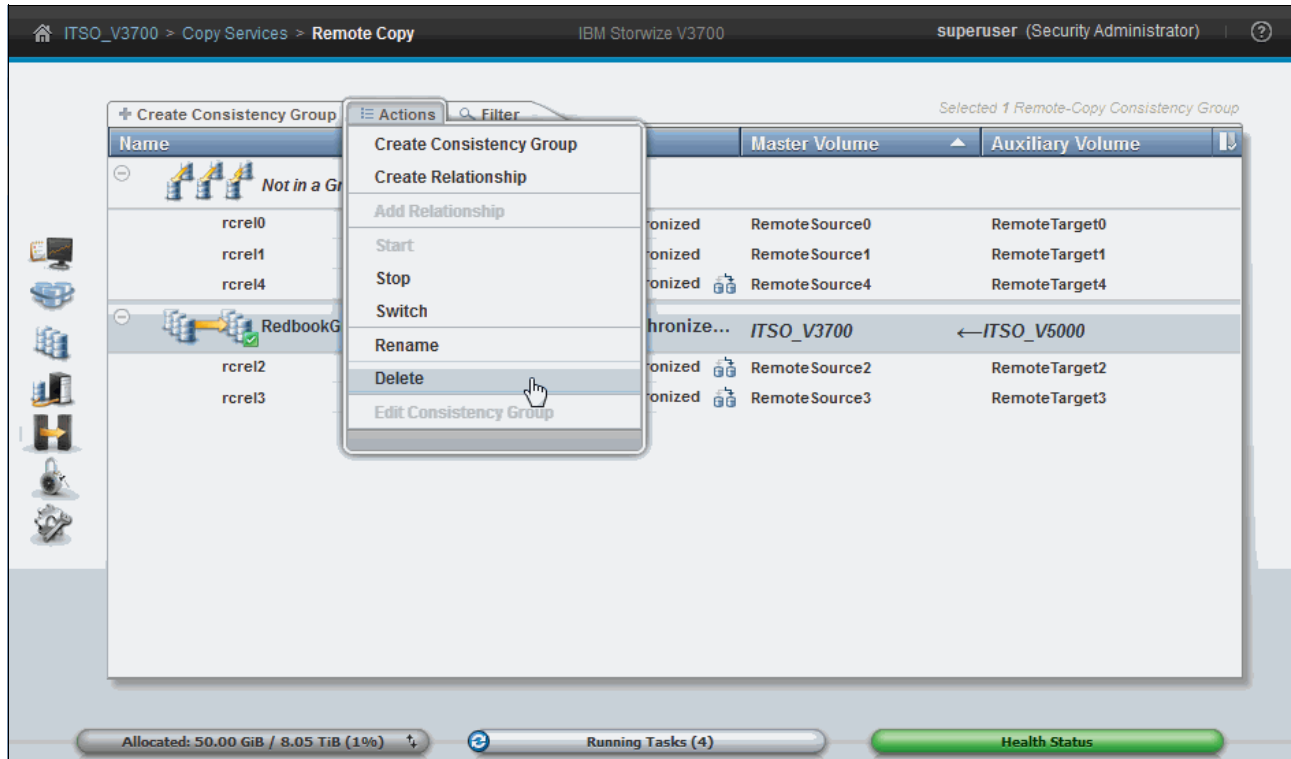

Figure 10-145 Delete a consistency group
After the removal process completes, the Remote Copy relationships are deleted from the consistency group and displayed in the Not in a Group list, as shown in Figure 10-145.
1. Click it and select **Delete** from the **Actions** menu, as shown in Figure 10-145. Alternatively, right-click the group to be deleted.